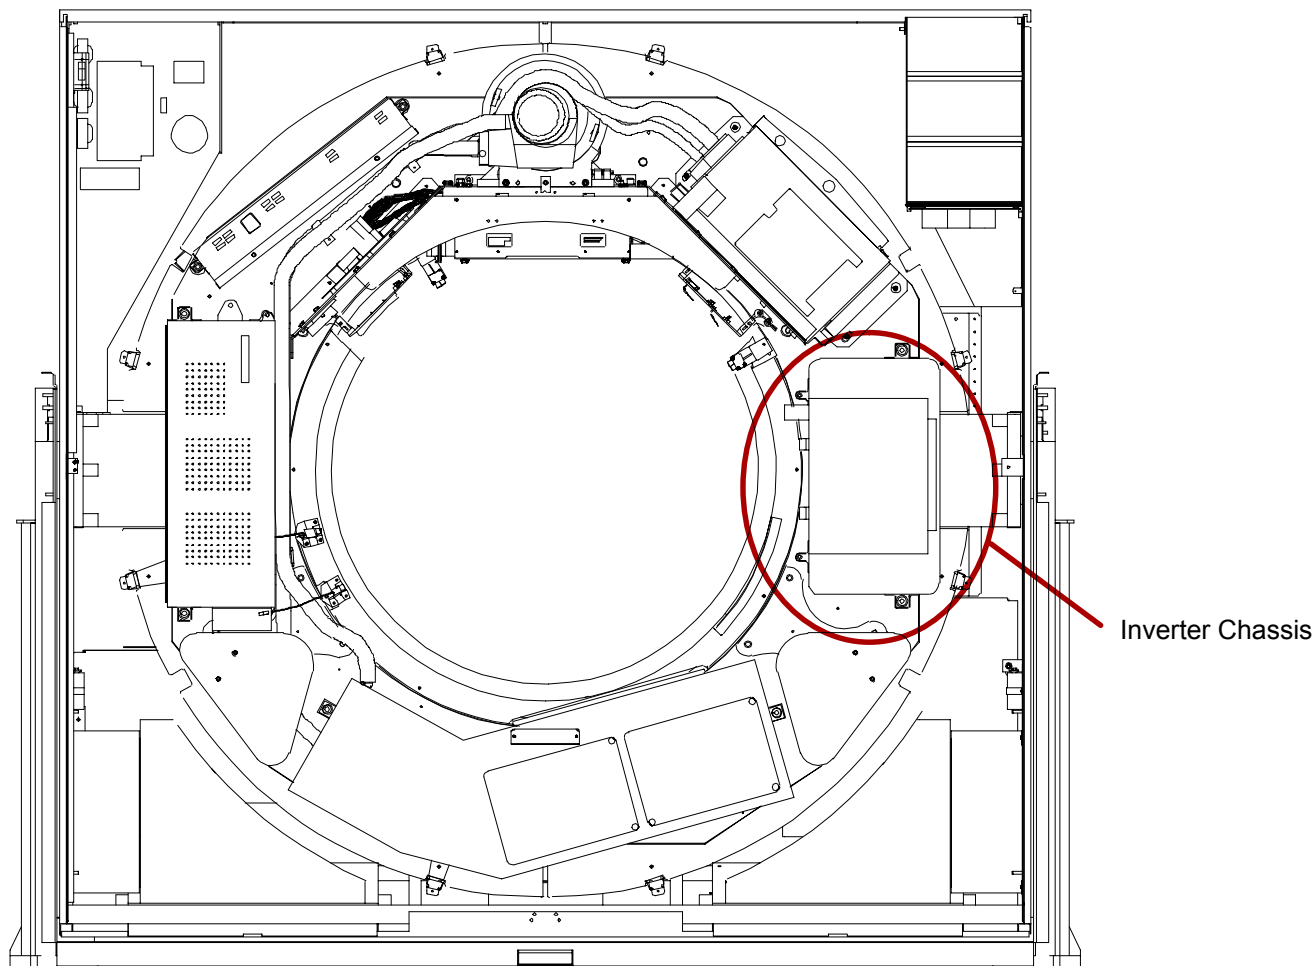

FIGURE 265 Scan Frame Pinned with Tube at 12:00
3. Rotate the Scan Frame counterclockwise by hand until the X-Ray Tube is at the 12:00 position. Lock the Scan Frame with the Locking Pin. See Figure 265.
5. Remove triangular shaped weights located in front of the inverter chassis. Refer to Figure 265.